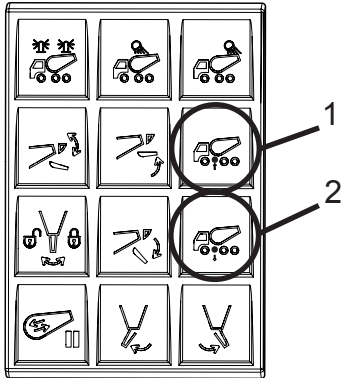

Figure 156
2. Press the Pusher Axle function button (UP button is Item 1, and DOWN button is Item 2) on the standard in-cab keypad (Figure 156).